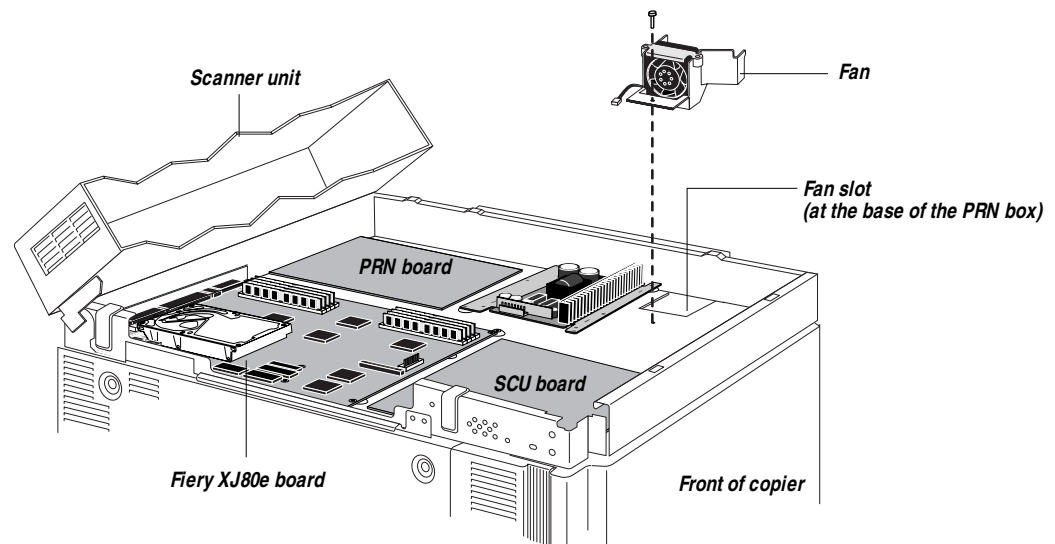

Figure 3-13 Installing the fan
3. **With the fan label facing the edge of the copier, angle the fan so that the bottom of it rests in the slot (see Figure 3-13).**